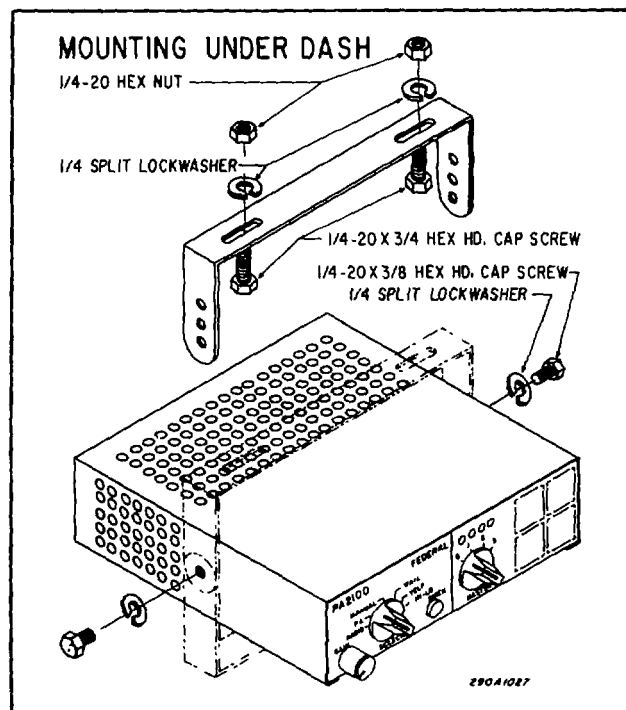

Figure 3-1. Installation of Siren Under the Dash
Mount the siren in a location that is convenient and comfortable to the operator and where it will not interfere with the safe operation of the vehicle. Keep visibility and accessibility of controls in mind when choosing a mounting location. To install the racket under the dash, determine the mounting location and proceed as follows See figure 3-1):
C. Secure the mounting bracket to the dash using two each of the following: 1/4-20 x 3/4 hex head screws, 1/411 split lockwashers and 1/4-20 nuts as shown in figure 3-1.